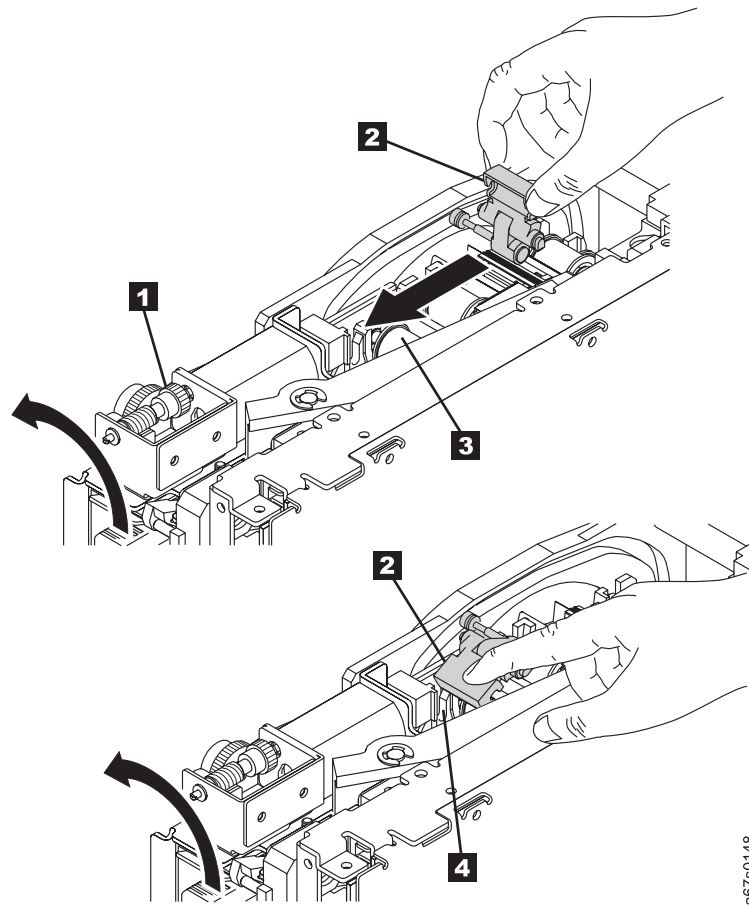

Figure 143. Guiding the leader block into the home position
- 9. Manually rotate the loader motor gear (see **1** in Figure 143) in the unload direction (counterclockwise) until the leader block **2** reaches the last roller **3**.